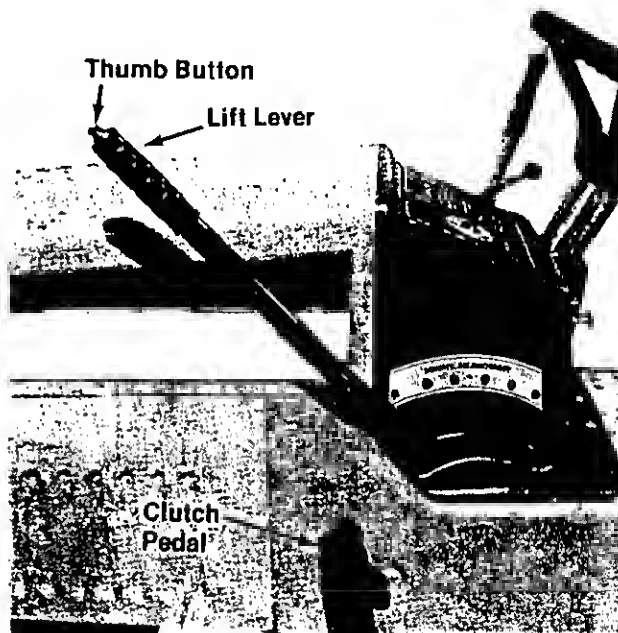

FIGURE 5.
You must depress the clutch pedal and come to a complete stop before shifting gears. See figure 5.
**Clutch**—The clutch pedal is located on the left side of the tractor. Depressing the clutch pedal disengages the clutch. The clutch pedal must be depressed when you shift the transaxle, come to a complete stop with the engine running and start the engine. See figure 5.
**Lift Lever**—The seven position lift lever is used to change the operating position of all the front, center and rear mounted attachments. To operate, depress the thumb button, move the lift lever to the desired position and release the button. See figure 5.
- B. Depress and hold down the clutch pedal. See figure 5.